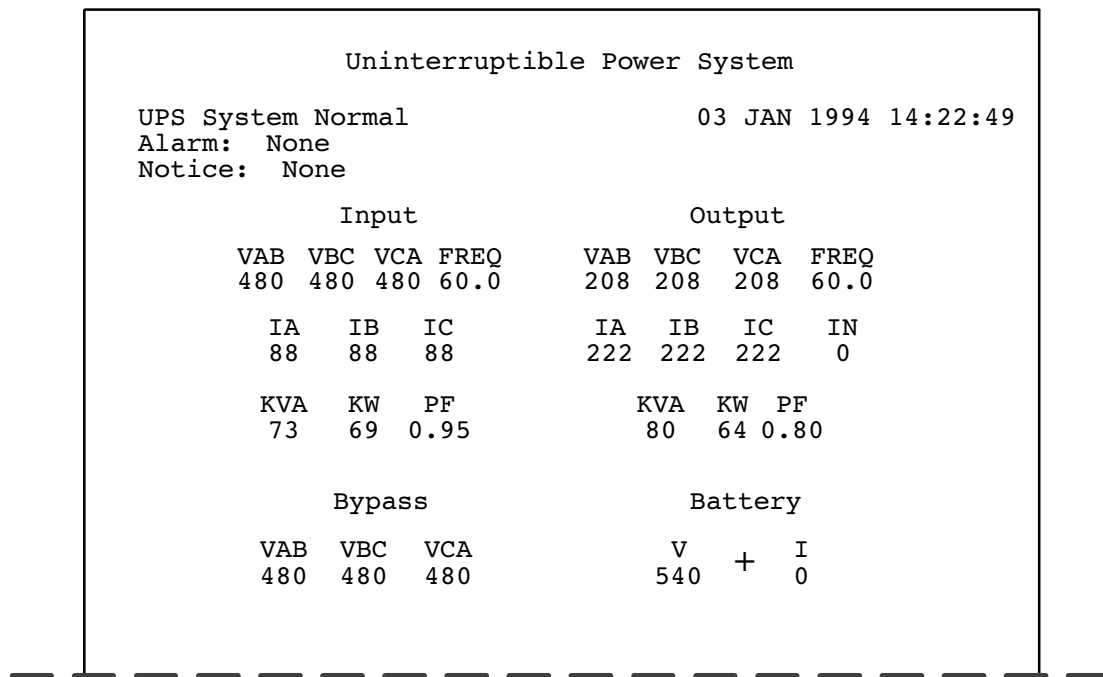

Figure 45. System Meters
This key sequence prints the current readings of the UPS system meters. The Input area shows the phase-to-phase voltage, frequency, and phase current of the incoming utility, followed by the kVA, kW, and power factor measurements. The output area shows the same information for the power being output by the UPS. The Bypass area shows the phase-to-phase voltage of the bypass source. The Battery area displays the DC voltage (V) and the DC current (I). Figure 45 shows a sample Meters printout.